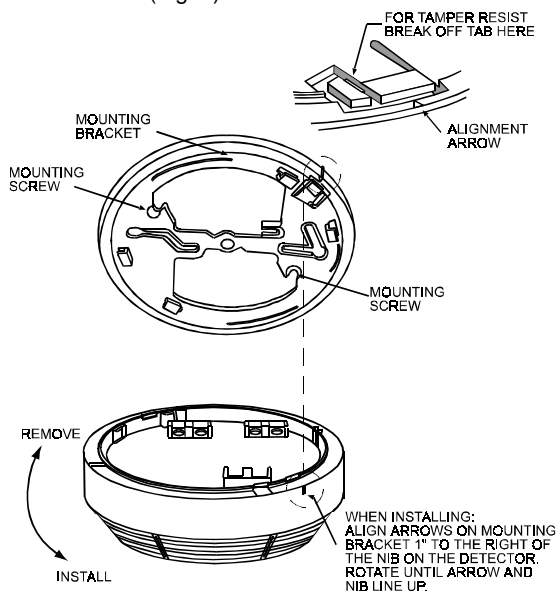

Figure 7: Installation
- B. Turn the alarm over and remove the mounting bracket by turning it counterclockwise. Hold the bracket against the ceiling (or wall) with a pencil, trace around the inside of the two screw slots (Fig. 7).
The alarm mounting may be made tamper-resistant by breaking off the plastic tab as shown in the Figure 7. To release an alarm mounted in this way, push-up on the locking tab with a small screwdriver while turning the alarm counter-clockwise.